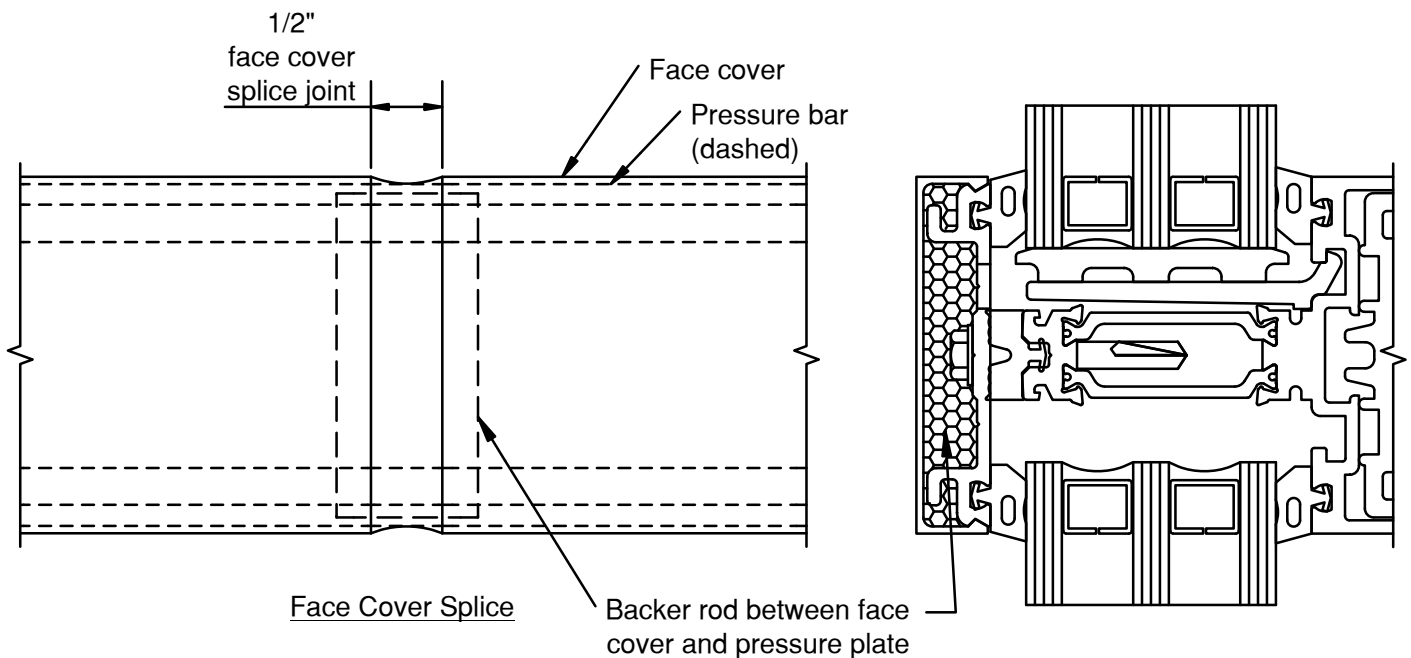

FIGURE 16
- NOTE:** Horizontal pressure plates and face covers run continuous over SSG mullions, not to exceed 3 lites in length. SEE FIGURE 16 for splicing and sealing instructions.